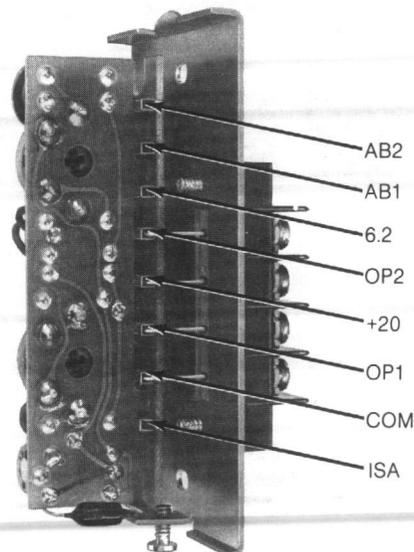

Figure 9b
- a. Connect VOM internally to OP2 (+) and COM (-). See Figure 9B for details.
- a. Connect VOM internally to OP1 (+) and COM (-). See Figure 9B for details.